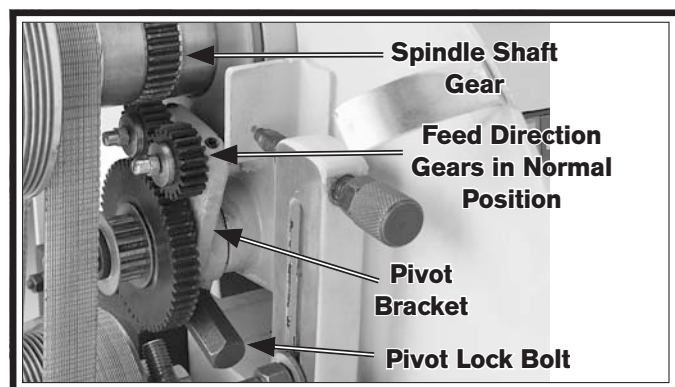

Figure 69. Feed direction gears in the right-hand threading position (belts and pulleys removed for photo clarity).
3. **Standard:** To make the leadscrew and spindle rotate in the same direction, turn the spindle clockwise by hand as you apply pressure on the pivot bracket toward the front of the lathe until the rear direction gear meshes with the spindle shaft gear (see **Figure 69**).